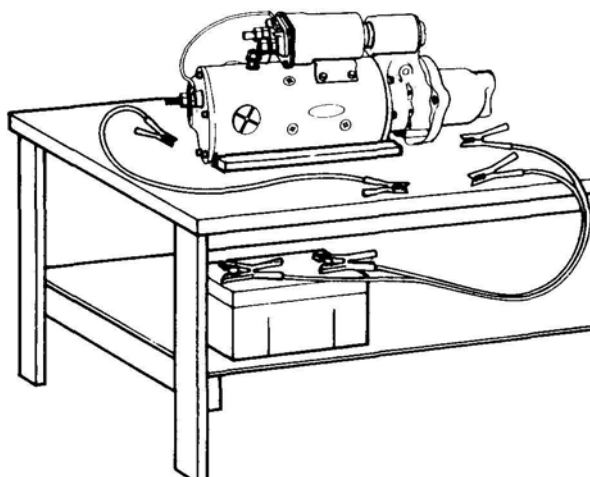

Figure 2-1. Simple Test Bench Setup
- 1) Test Stand Operation. With the starter supported on a suitable test bench or stand (fig. 2-1), check armature for freedom to rotate by prying on drive pinion as necessary to turn armature counterclockwise as viewed from drive end.